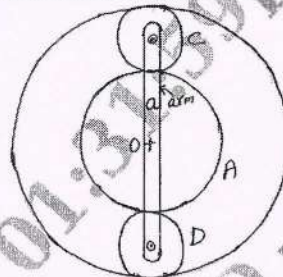

Fig. Q8 (b)
b. An Epicyclic gear train as shown in fig. Q8(b) below, has a sunwheel S of 30 teeth and two planet wheels P of 50 teeth. The planet wheels mesh with the internal teeth of a fixed annulus A. The driving shaft carrying the sunwheel transmits 4 KW at 300 rpm. The driven shaft is connected to an arm which carries the planet wheels. Determine the speed of the driven shaft and the torque transmitted if the overall efficiency is 95%.
b. An epicyclic gear train is shown in Fig. Q8 (b). The number of teeth on A and B are 80 and 200 respectively. Determine the speed of the arm 'a',